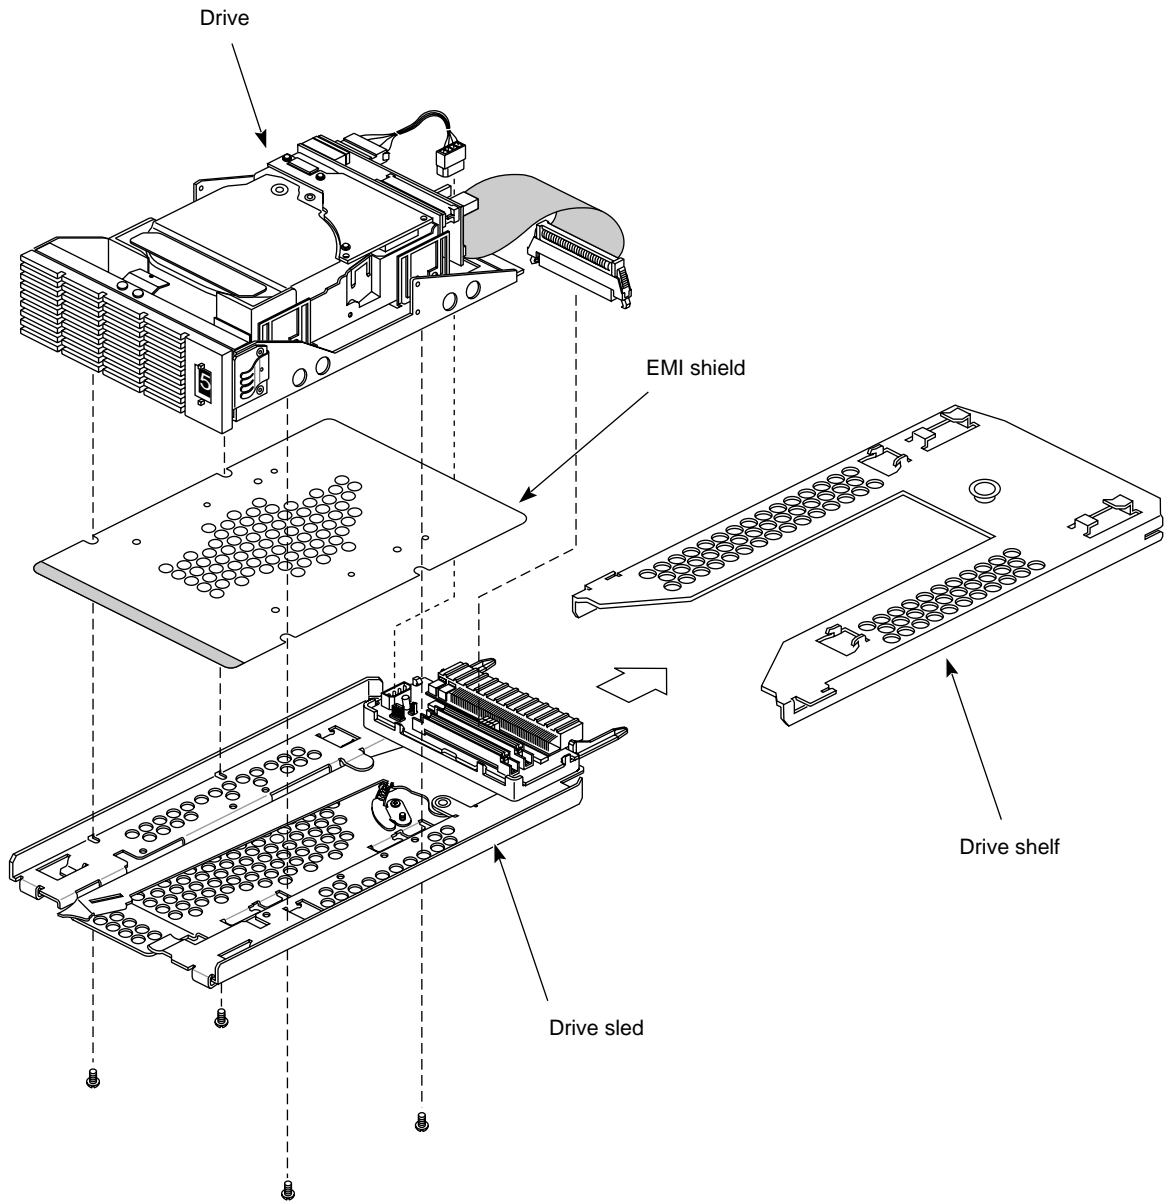

Figure 4-3 Installing a Half-Height SCSI Drive on a Sled and Loading It
The drive must be properly mounted on a drive sled and configured for a channel and operating protocol (single-ended or differential). See Figure 4-3.
1. If your drive did not come already mounted on a sled, place it on top, as shown in Figure 4-3. Be sure the EMI shield is affixed to the bottom of the drive and is aligned as shown in the drawing.
Each drive must be properly mounted on a drive sled and configured for a particular channel and SCSI transmission protocol (single-ended or differential). Refer to Figure 4-3 for the mounting position of the drive on a sled.